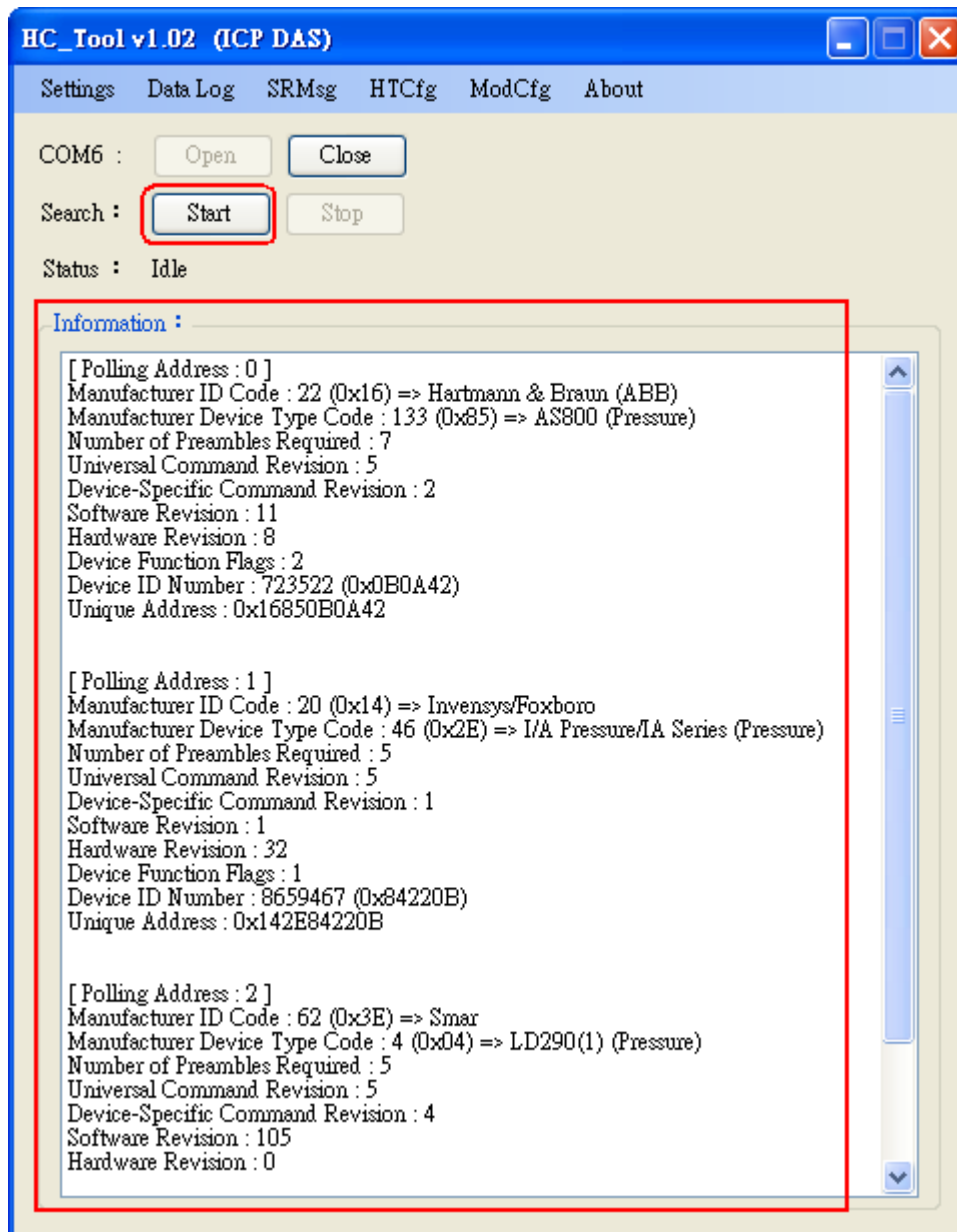

Figure 4-8: HART device Information
- (2) Click “**Start**” button to search all HART devices and the result will be shown in the “Information” field like Figure 4-8.